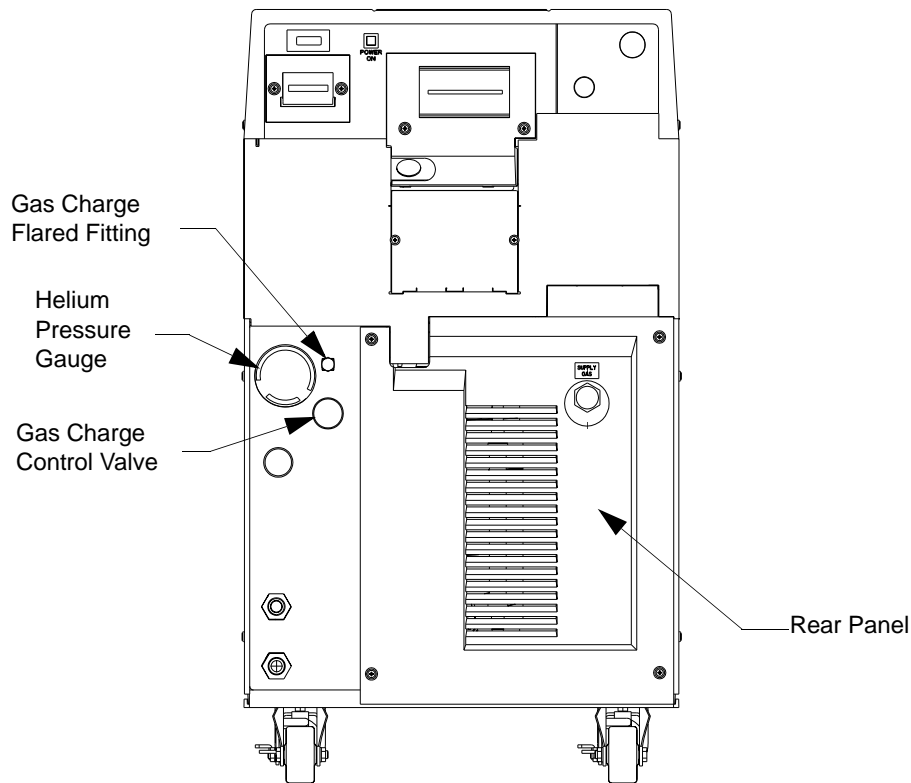

Figure 6-3: Helium Pressure Control Components
1. Remove the flare cap from the gas charge fitting as shown in Figure 6-3.